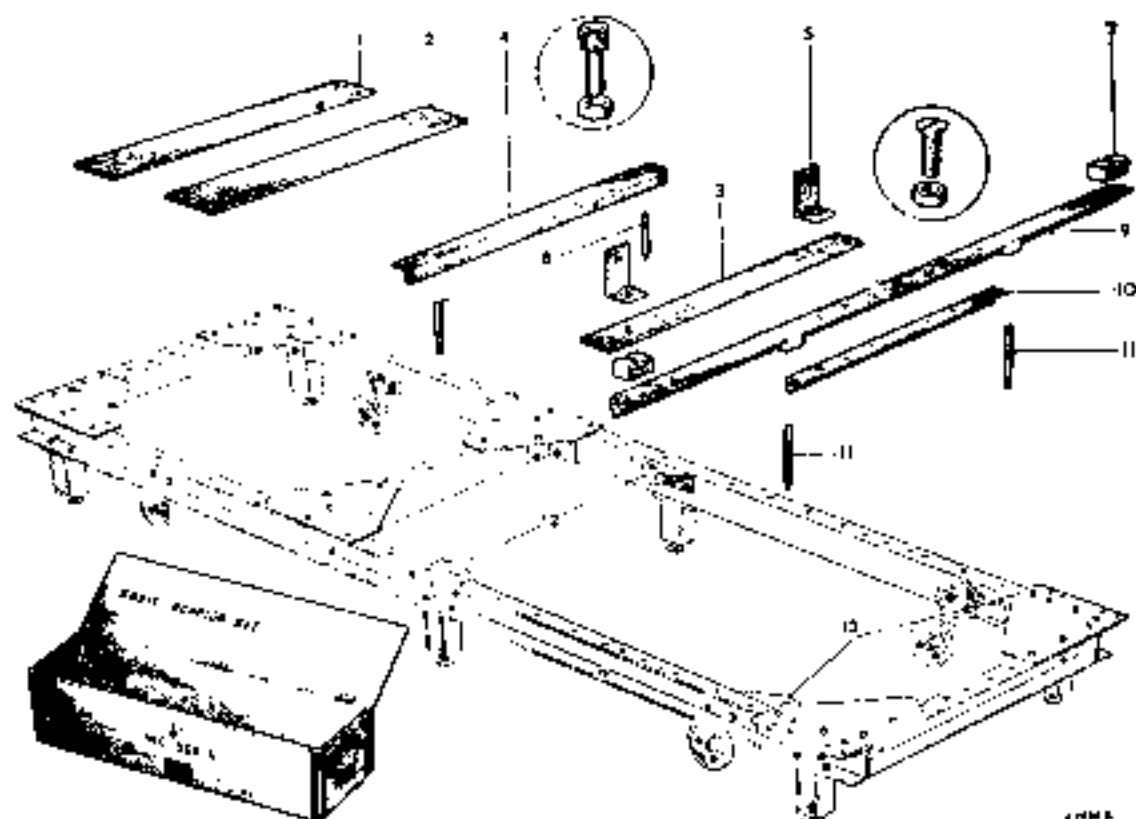

Fig. R.50
- (1) Fit the plates numbered 1 and 2 on the basic jig in the positions marked on the inside face on the left-hand side-member, using the socket screws, nuts, and washers supplied. The arrows marked on the labels must face the front of the jig, which bears a level indicator in the centre of the front member. The plate numbered 3 is attached similarly, using the forward pair of holes on each side of the jig where labelled.
**NOTE.**—Plates 1, 2, and 3 are identified by labels; the item numbers quoted in the instructions (2) to (6) refer to Fig. R.50.
- (2) Attach the two torsion bar rear check brackets (5) to plate 3 with the faces bearing the model names facing forward. These brackets are stamped 'R.H.' and 'L.H.', although reversal is impossible.
- (3) Detach the four body support brackets (12, 13) from the side-members of the basic jig and re-assemble them in the forward position, ensuring that the fixings (one screw, three nuts and bolts on each) are quite secure.
- (4) Screw the four domed support pins (8, 11) well down into the threaded holes provided in the support brackets, the longer pair at the rear and the shorter pair near the centre of the jig.
- (5) Place the front jacking bar (4) in position on the shorter pair of support pins (8). The rear jacking bar now requires assembly as follows.